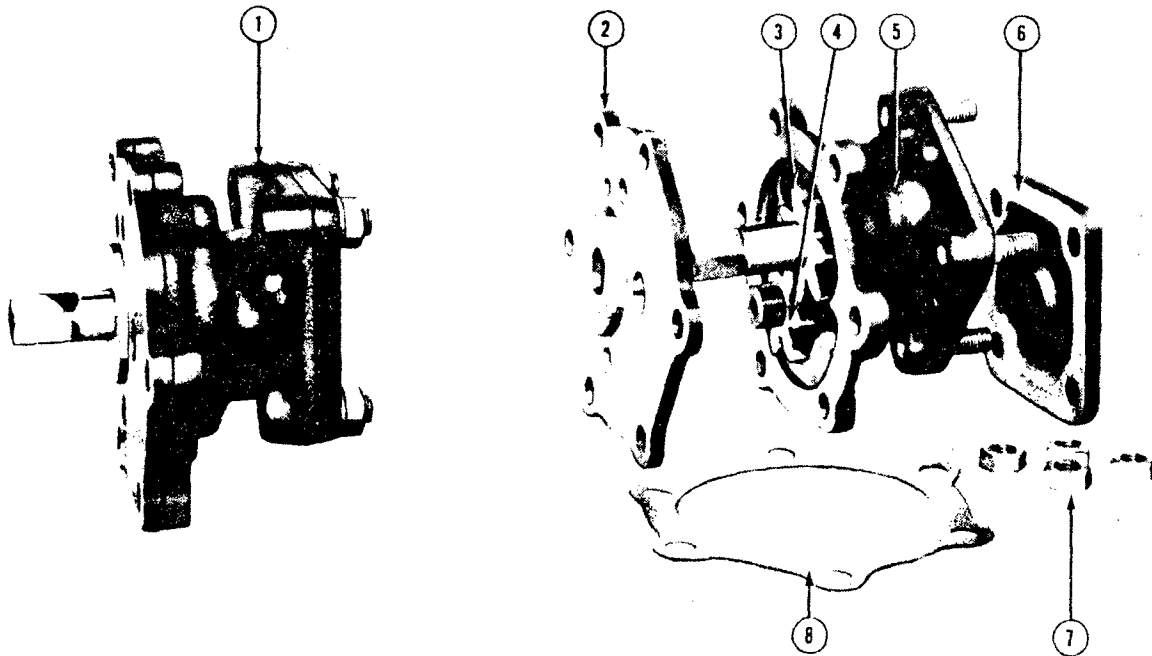

Figure 55—Rocker Scavenge Oil Pump
(3) **Rocker Scavenge Oil Pump.** (See figure 55.) The rocker scavenge oil pump drive gear on the W670-6N has a spline connection for driving the fuel pump and is provided with an oil seal, while the W670-6A has a square coupling for driving the fuel pump, and no oil seal is provided. The pump pilot plate (2) (located on the drive side of the pump housing) serves as the gear rear bearing support and retains the two pump gears (3) and (4) in the housing.